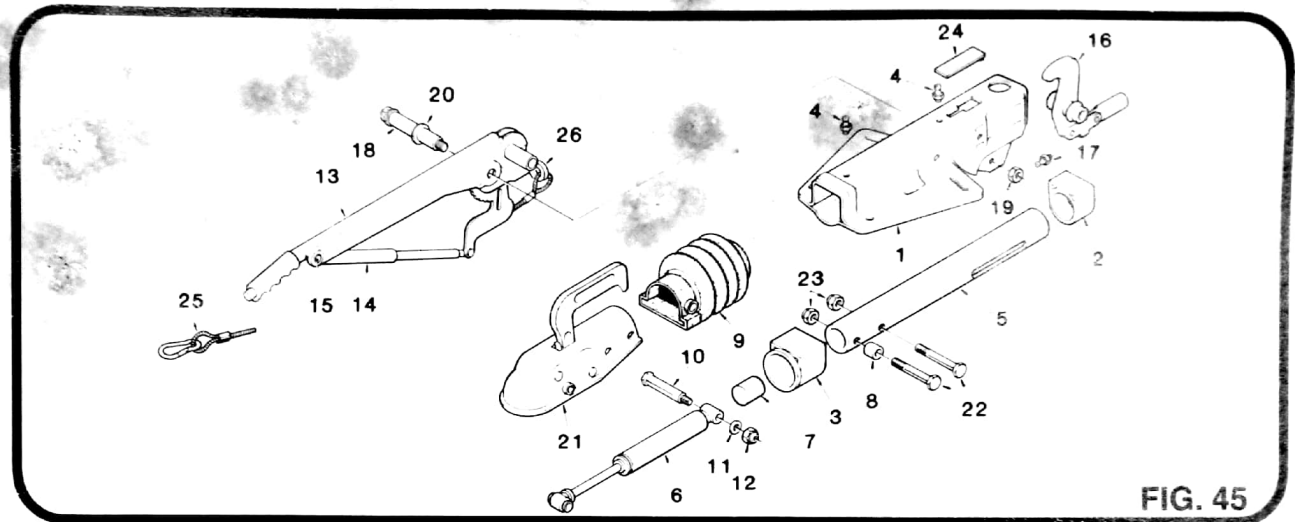

FIG. 45
3.4 Change a shock absorber on types 161S/251S/131R/161R/251R (Fig. 45)